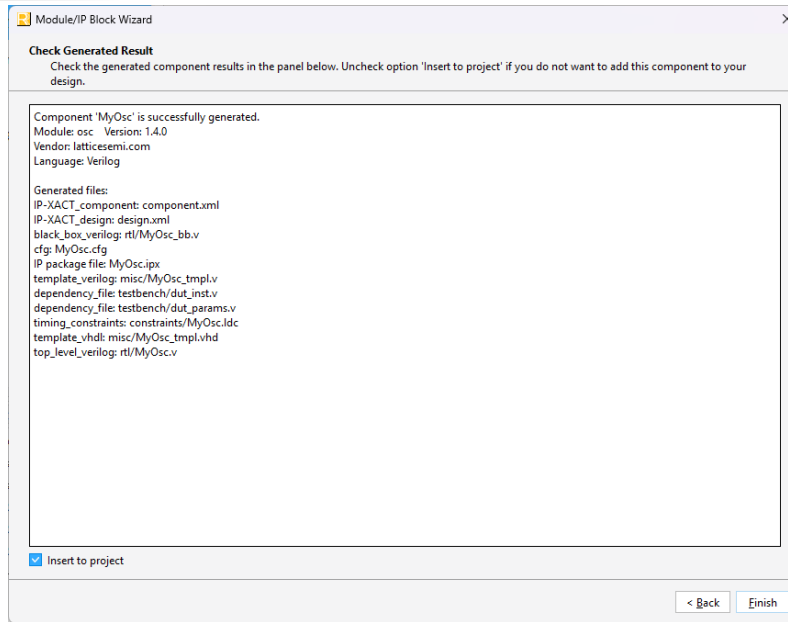

Figure 14: Check Generating Result Dialog Box
6. Click **Generate**. The Check Generating Result dialog box should appear as shown in Figure 14.